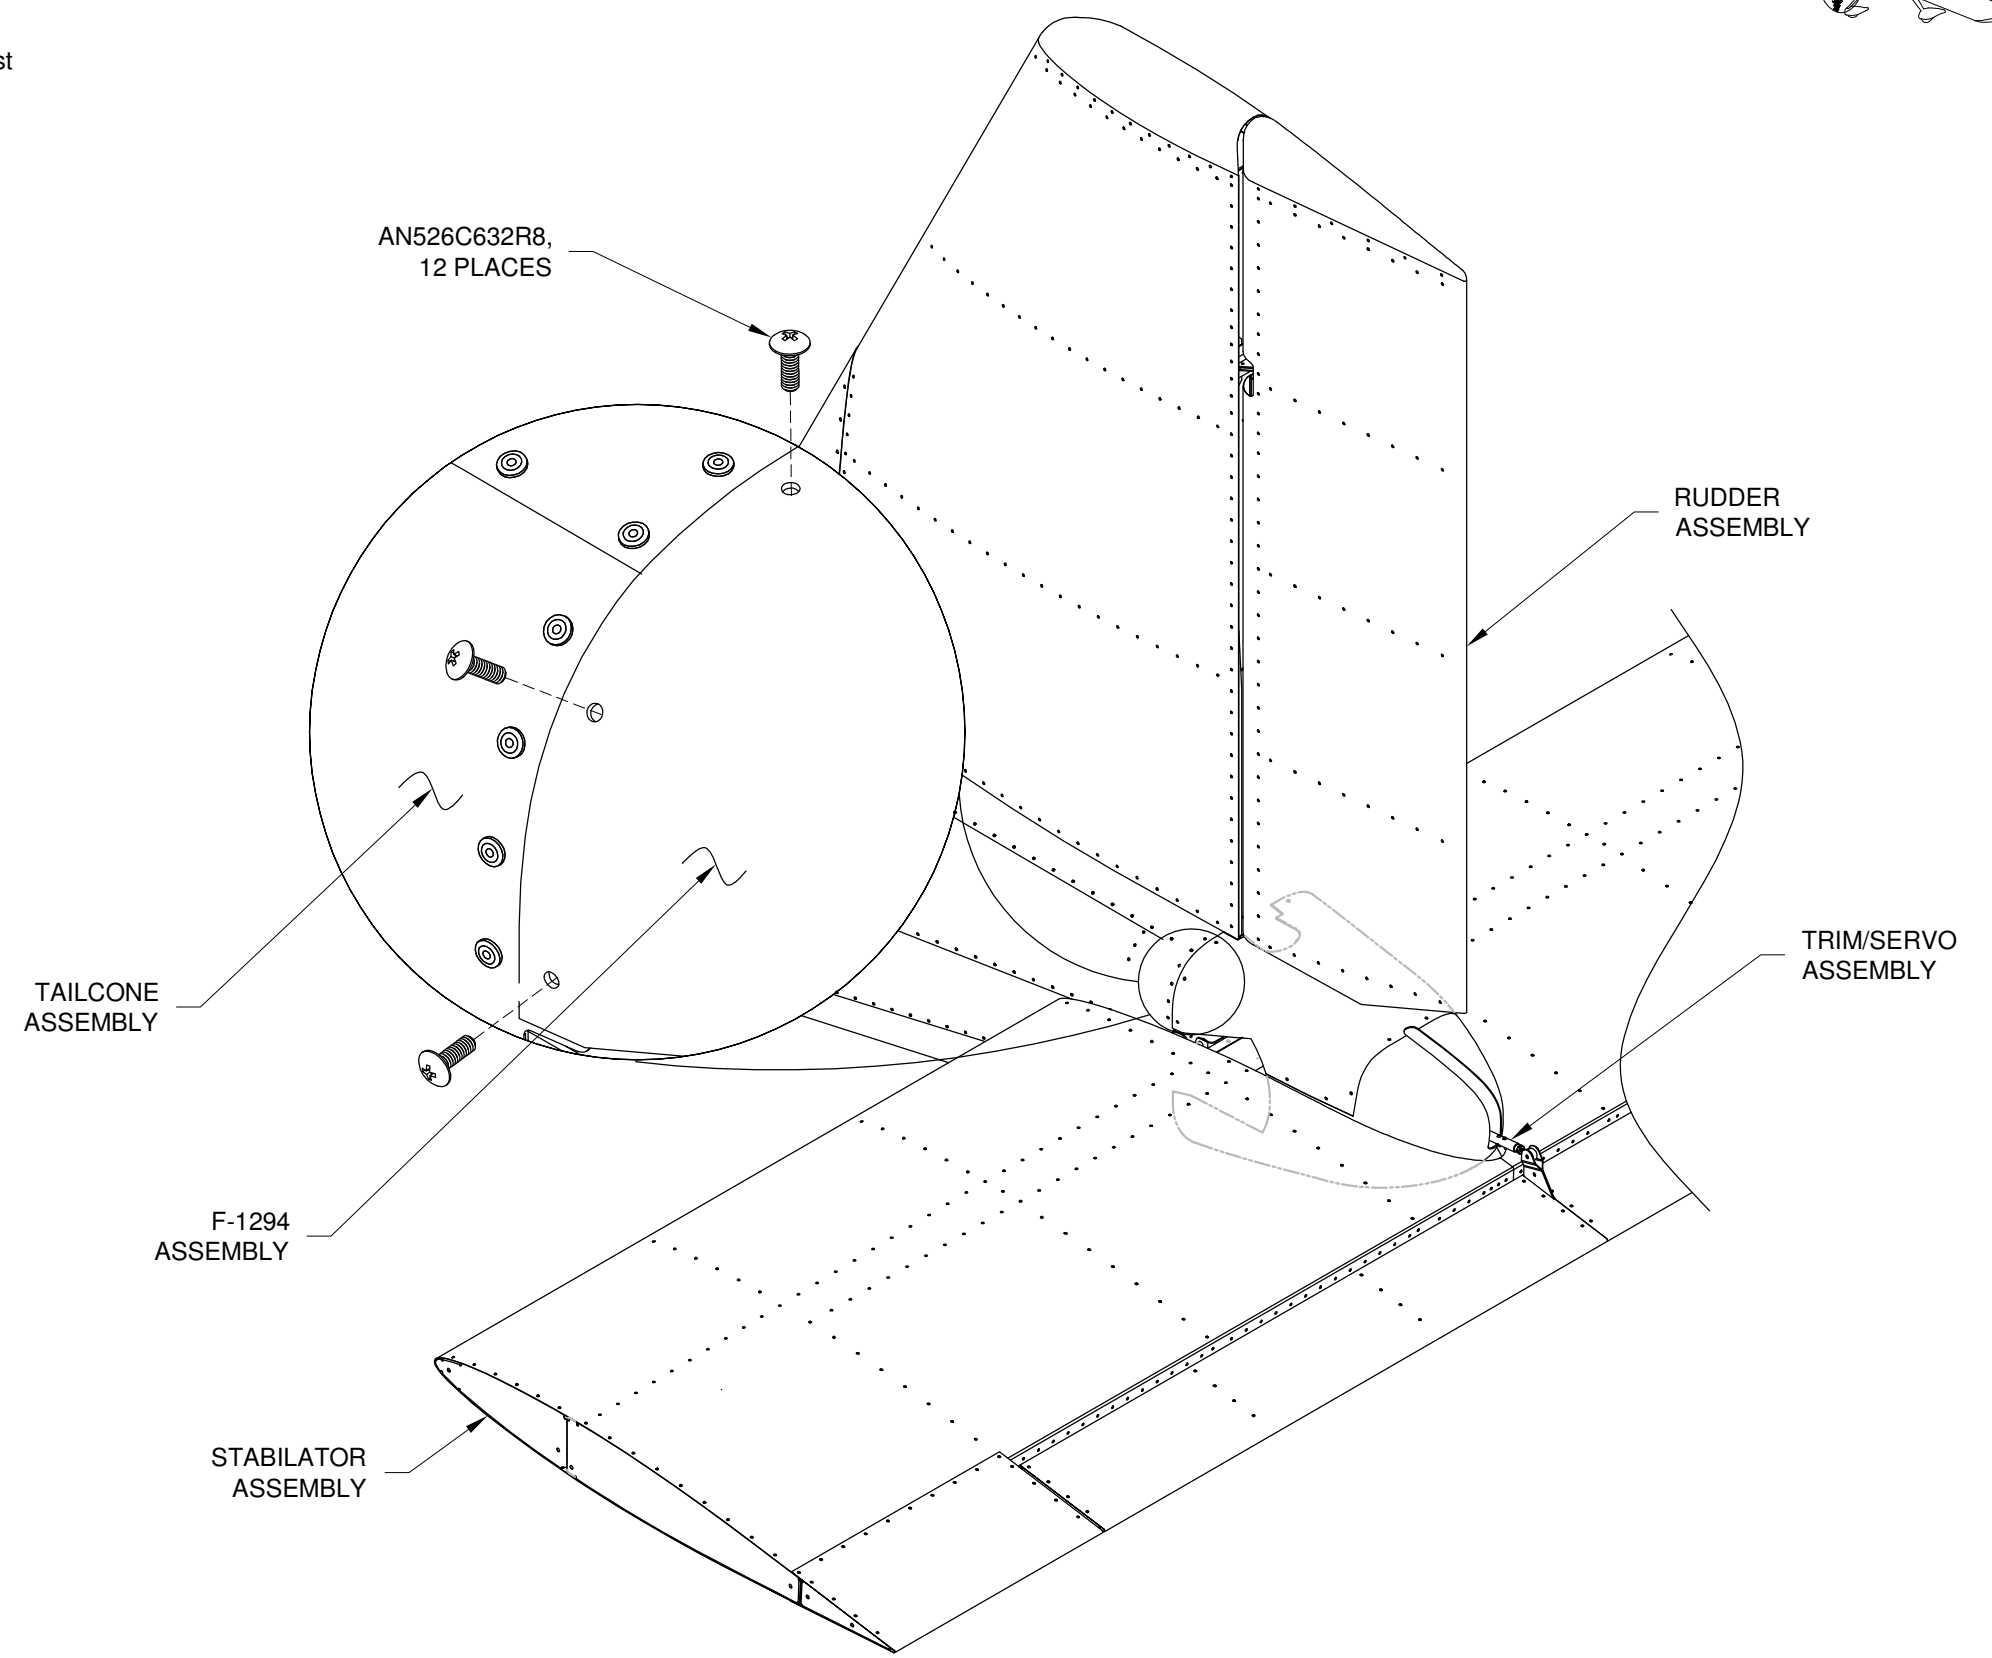

FIGURE 1:
Step 1: Install the F-1294A & B Upper and Lower Tailcone Fairing to the Tailcone Assembly using screws called out in Figure 1.